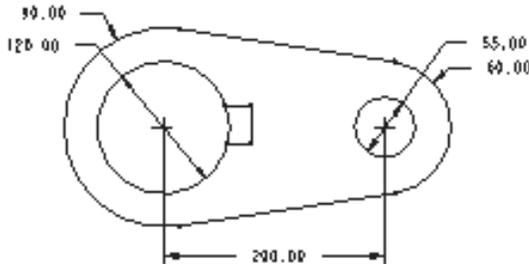

Figure 2-24 Sketch of the keyway
2. Select the **Horizontal** option from the **LINE TYPE** submenu and draw the keyway as shown in Figure 2-24.